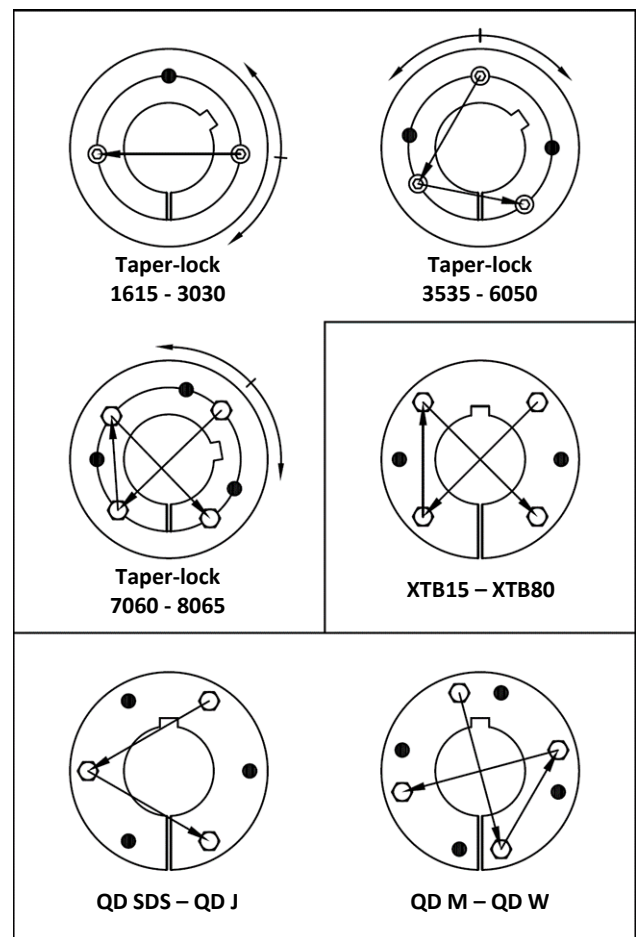

Figure 1: Bushing Screw Tightening Sequence
Determine the type and size of bushing to be removed. Refer to the certified print for your magnetic head pulley or the information on the bushing face for the bushing size. Refer to **Figure 1** & **Table 1** for information.
- 4) Insert the screws per the following. Refer to **Figure 1**.
- 6) Starting with one bushing, tighten the screws evenly in the sequence shown in **Figure 1**. Use a torque wrench set according to **Table 1**.